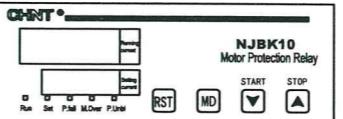

Figure 1 Schematic diagram of panel
4.1 Schematic Diagram of Panel see Figure 1.